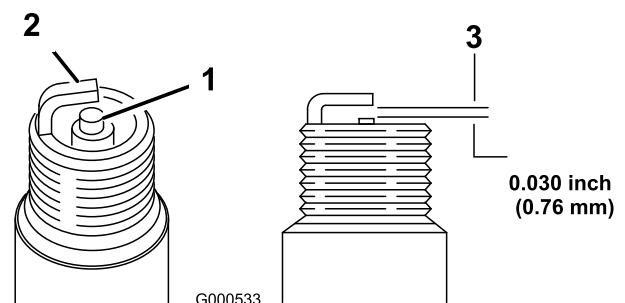

Figure 23
5. Set the gap on the new plug to 0.030 in. (0.76 mm) (Figure 23).